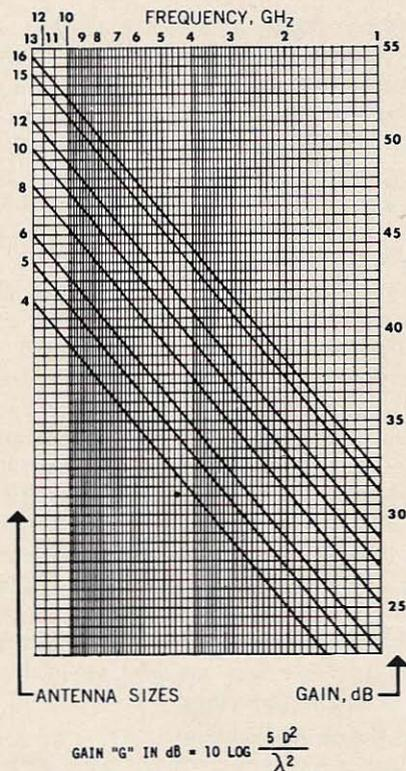

Fig. 7. Antenna gain.
24.5 dB 6 ft parabola (Fig. 7)